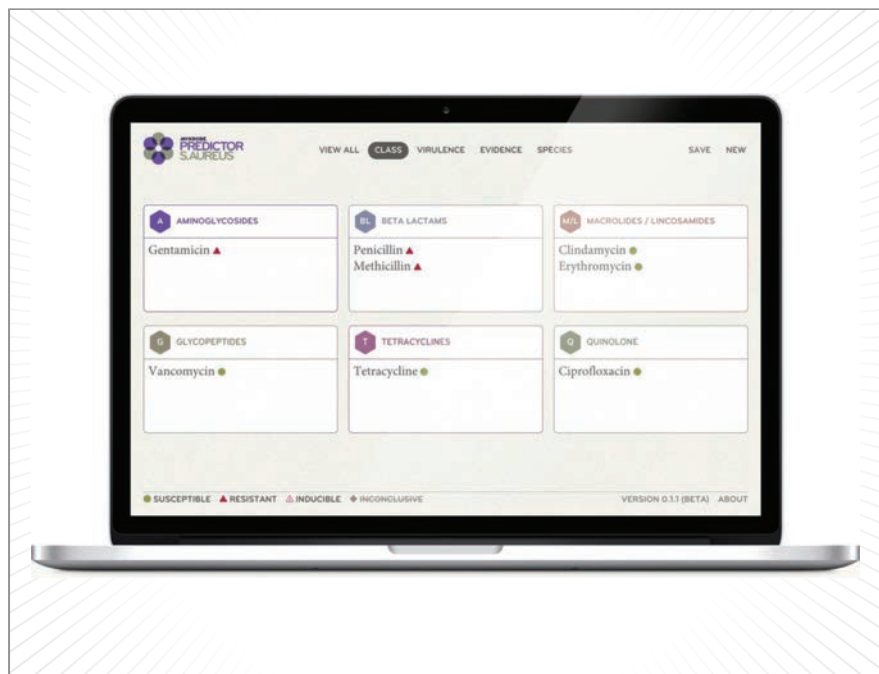

Figure 1. A screenshot from the Mykrobe Predictor for *Staphylococcus aureus*, showing the easily interpreted results screen.
Figure 1. Map of a tumor. Each color denotes a different clone. Each star indicates a "singleton" clone that is unique among the samples. Note the outward expansion from the center and the overlapping clones.
is kept under the non-Darwinian mode (Figure 1).
Traditionally, drug susceptibility testing is used to find out which drugs an infection is resistant to, and involves introducing different antibiotics to a culture of the bacteria, but this process can take days, or potentially even longer for slow-growing pathogens like tuberculosis (TB). The Mykrobe program looks directly at the bacterial DNA and quickly analyzes it, presenting the results in a format that does not require specialist interpretation (see Figure 1).